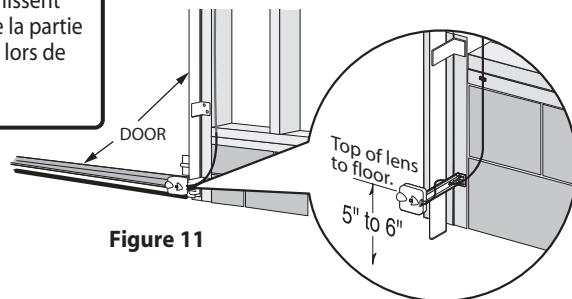

Figure 11
- Determine location for mounting. They do not need to be directly adjacent to the door but must be somewhere along the wall where there will be an unobstructed line between them. **Fig. 11.**